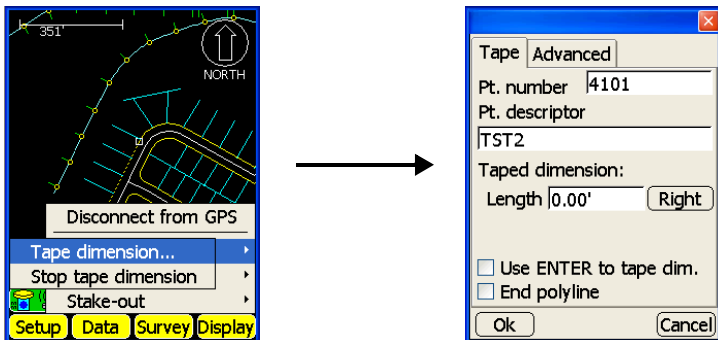

Figure 6-13. Select Tape/Advanced Tape Dimension Measurements
5. Move to the next point and tap **Survey ► Measure pts ► Tape dimension** (Figure 6-13).
6. Enter a point number and a description if needed (Figure 6-13).
7. Enter a length and select whether the tape dimension is to the right or left of the previous tape (Figure 6-13).